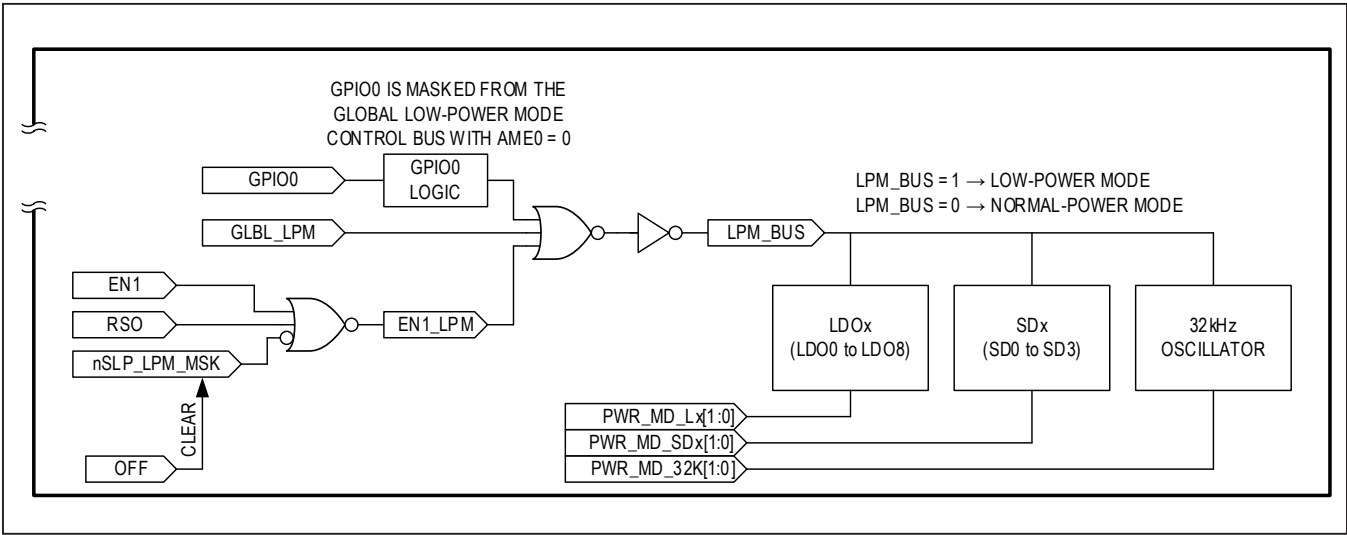

Figure 8. Simplified Logic for Global Low-Power Mode
All step-down regulators, linear regulators, and the 32kHz oscillator have low-power modes. Each block containing low-power mode allows for the power mode to be controlled individually or for the power mode to be controlled globally with the global low-power mode bit (GLBL_LPM), or GPIO0 when it is set in its alternative mode, or the EN1 hardware input. See Figure 8 for the simplified logic.
The logic shown in Figure 8 allows EN1 to control the low-power mode bus (LPM_BUS). With LPM_BUS = 1, any peripheral (32kHz oscillator (OSC), linear regulator (LDO), or step-down regulator (SD)) with its power mode bits programmed to 0b01 (PWR_MD_xx[1:0] = 0b01) are in low-power mode when LPM_BUS = 1.